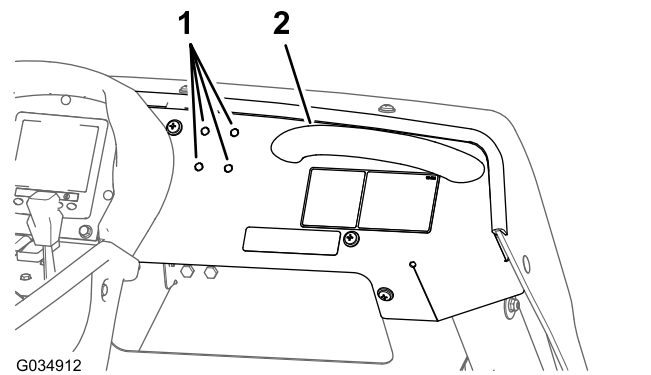

Figure 129
1. Locate the 4 hole punchouts (1/4 inch) in the dash panel that are located to the left of the grab handle (Figure 129).
2. Remove the 4 hole punchouts from the dash panel (Figure 129).